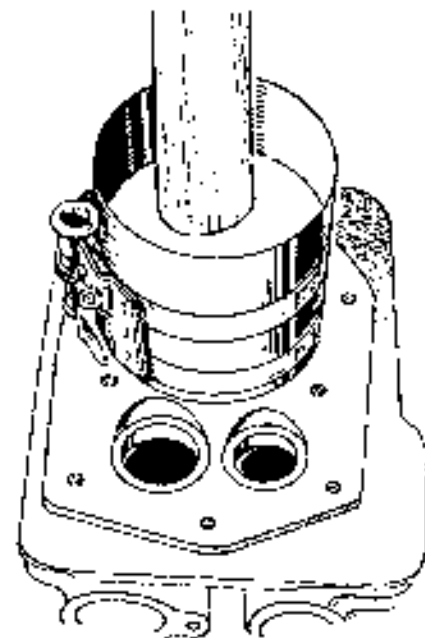

FIGURE 16-12. INSTALLING PISTON
2. Lubricate number one piston assembly and inside of cylinder. Compress rings with a ring compressor as shown in Figure 16-12. Install bearing insert in rod.
4. Tap piston down into bore with handle end of a hammer until connecting rod is seated on journal. Figure 16-12. Install the bearing cap on the rod with the witness marks and stamped reference numbers matching the marks on the rod. Install and tighten the bolts to the specified torques.